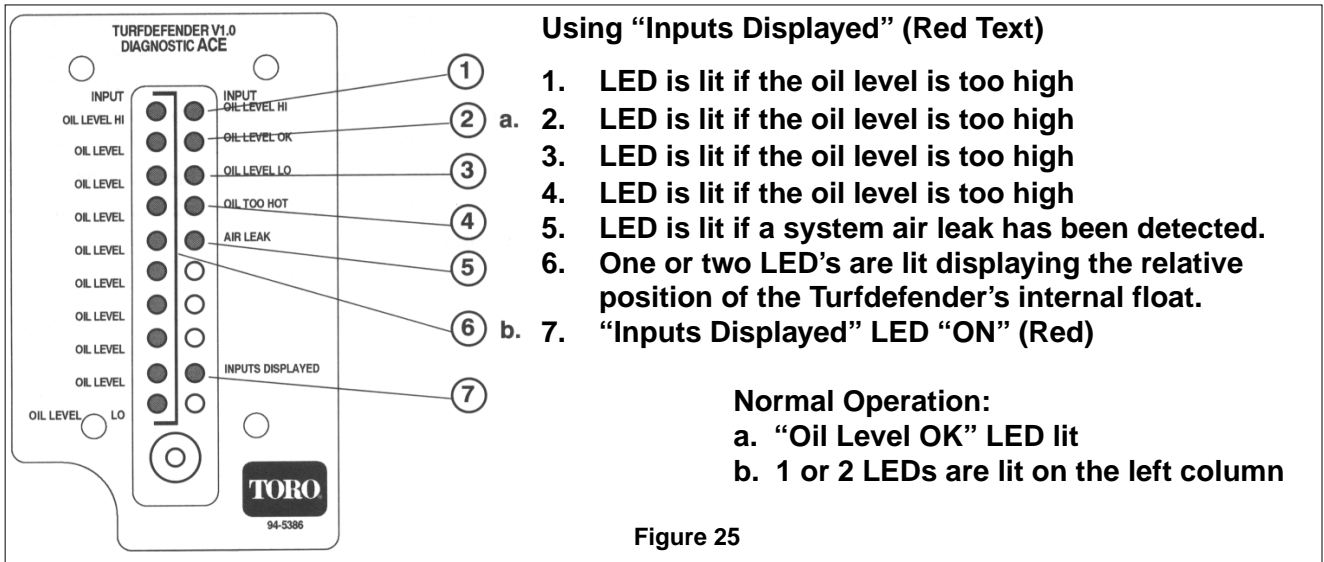

Figure 25
1. When the "Inputs displayed" LED is lit, the actual Float position (1 or 2 LED's on left row) and "Oil level OK" LED should be displayed (Fig. 25).
1. When toggling "input", a LED should display (Fig. 25) any of the following problems diagnosed by the TurfDefender: